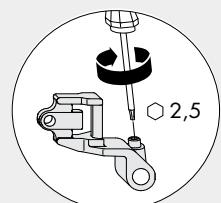

Figure 2
- B** Top hinge pin (8/14) must be secured in the stay hinge (10/16) with a grub screw (torque 2.5 ± 0.25 Nm) (see Figure 2).